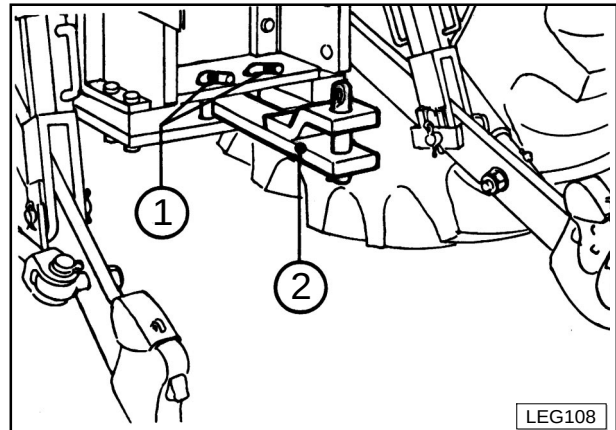

Fig. 4-61- Class "A" swinging rear drawbar.
The tractor may be equipped with a Class "A" swinging drawbar (Fig. 4-61) consisting of a drawbar (2) and a cross-member. It is designed only for agricultural implements with two or more axles.